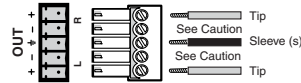

Figure 2-5 — Unbalanced audio output connector
1. Wire a 3.8 mm, 5-pole captive screw connector as shown in figure 2-5.